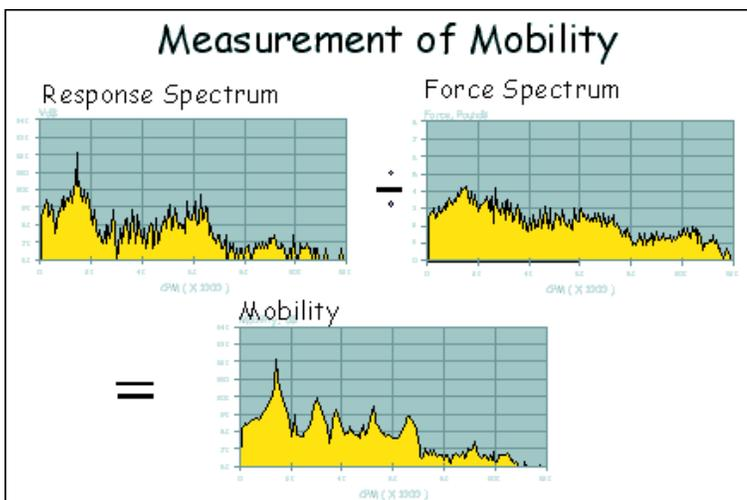

Figure 3 - We will need to enter the vibration levels at every frequency in a range and our mobility and force will look like spectra.
$M=V/F$ (1) Mobility equals Vibration divided by Force ($M=V/F$). The vibration part of the equation can be in either acceleration or velocity and it is frequency related. In other words, unless we are only interested in mobility (or force) at one frequency, we will need to enter the vibration levels at every frequency in a range and our mobility and force will look like spectra (see Figure 3). Phase information will be included in these calculations as well, but we can leave that for another paper.